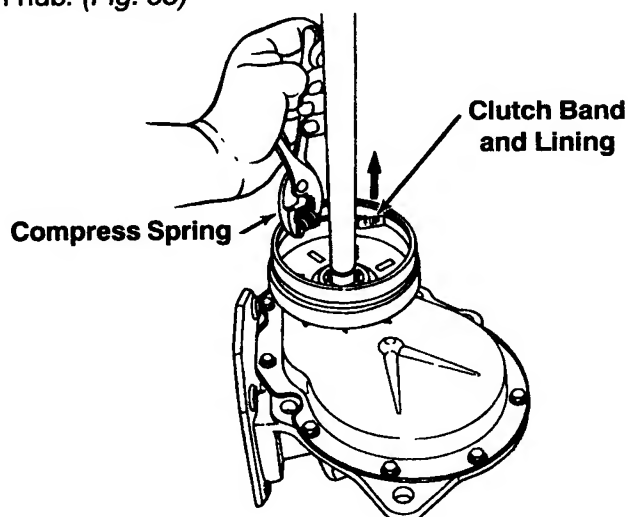

Fig. 65
2. To service just the clutch lining, compress the clutch spring with a pair of pliers and lift the lining from the clutch hub. (Fig. 65)